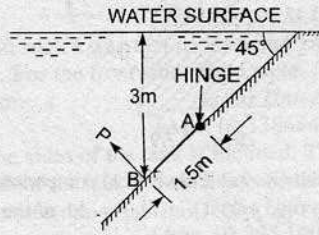

Fig. 3.55
15. An inclined rectangular gate of width 5 m and depth 1.5 m is installed to control the discharge of water as shown in Fig. 3.55. The end A is hinged. Determine the force normal to the gate applied at B to open it. [Ans. 97435.8 N]